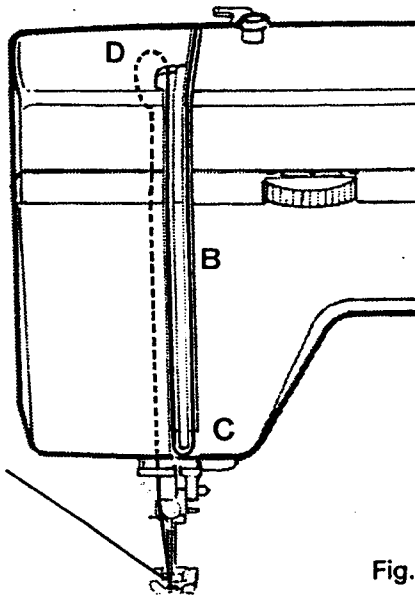

Fig. 2
2. Draw thread down and around check spring (C) and up through slotted take-up lever (D). (Fig. 2)